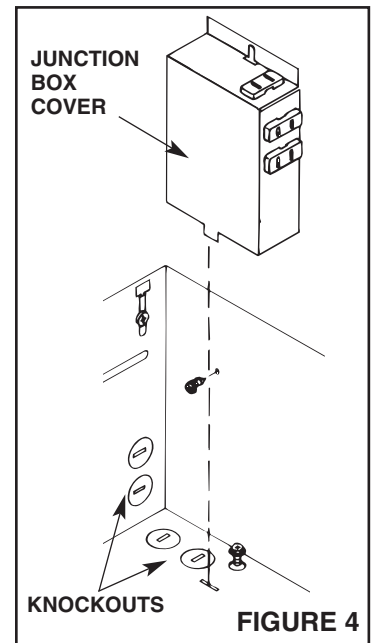

FIGURE 4
4. **Refer to Figure 4.** Remove junction box cover by removing one screw.
5. **Refer to Figure 4.** Remove appropriate wiring knockout(s) and install approved box connector(s).